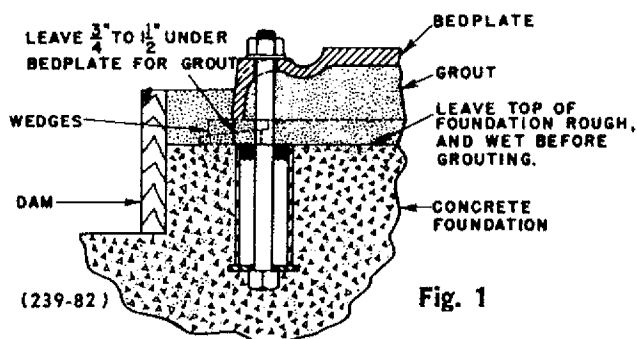

Fig. 1
- (b) Each bolt should be installed with a pipe sleeve around it—to allow for adjustment. The inside sleeve diameter should be $2\frac{1}{2}$ to 3 times the diameter of the bolt. Place a washer between bolt head and sleeve to hold bolt in position. See Fig. 1. Stuff waste around foundation bolts to prevent grout from entering between the bolt and pipe sleeve.
- (c) The foundation bolts should be of sufficient length so that they project through the nut approximately $\frac{1}{4}$ " after allowance has been made for grouting ($\frac{3}{8}$ " to $1\frac{1}{2}$ "), the thickness of the bedplate, and the thickness of the foundation bolt nut. See Fig. 1.
- (a) Build wood dam around foundation as shown in Fig. 1 and wet top surface of concrete foundation thoroughly.